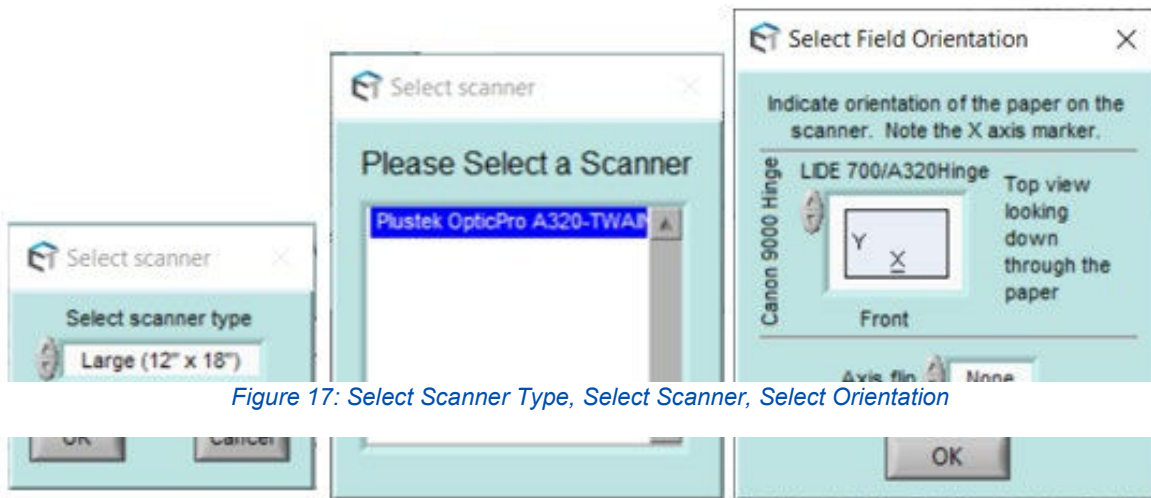

Figure 17: Select Scanner Type, Select Scanner, Select Orientation
- A pop-up window will show and ask to choose the flatbed scanner type you want to use (Figure 17).